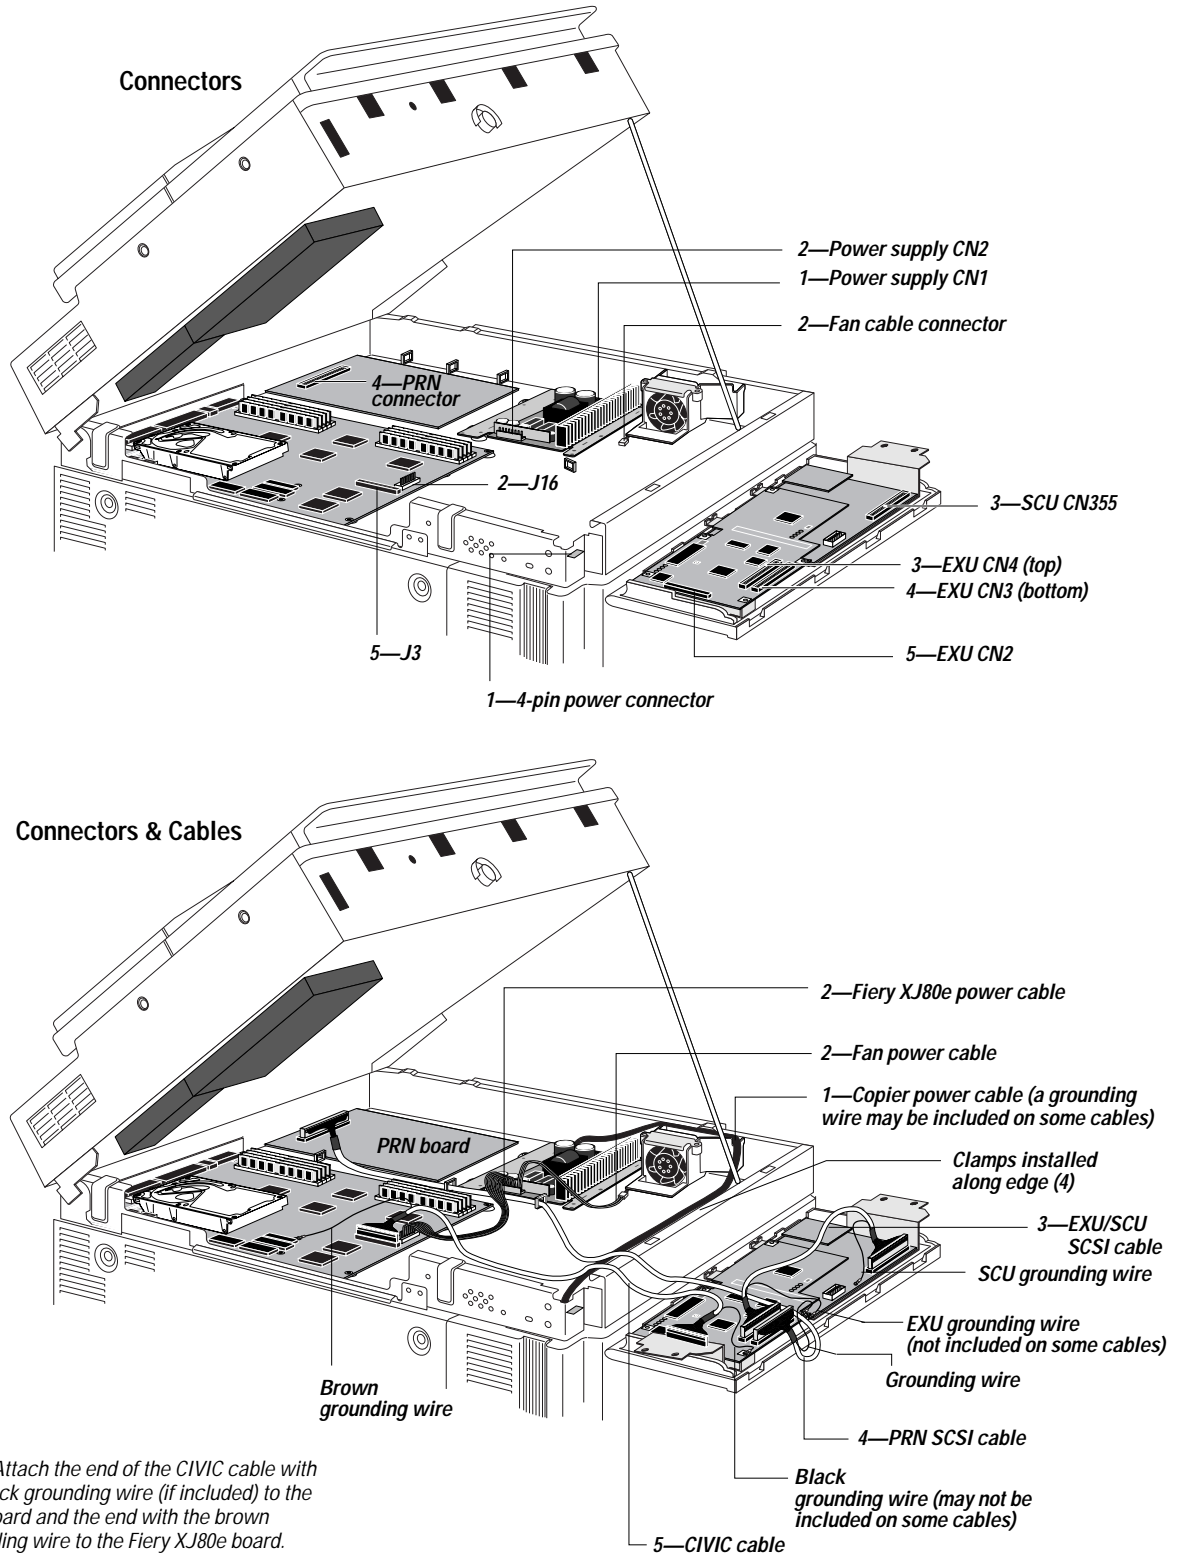

Figure 2-17 Cable connections and ground points
3. *Install the 4 clamps into the holes at the front of the PRN box (see Figure 2-17 on page 2-21).*
4. *Connect the cables as detailed in the following table and Figure 2-17 on page 2-21.*
Attach any grounding wires from the EXU/SCU SCSI cable, CIVIC cable, and the Copier power cable to the nearest grounding point as indicated in Figure 2-17 on page 2-21. You may need to remove mounting screws in order to attach the grounding wires. Grounding wires should not come in contact with any other components.